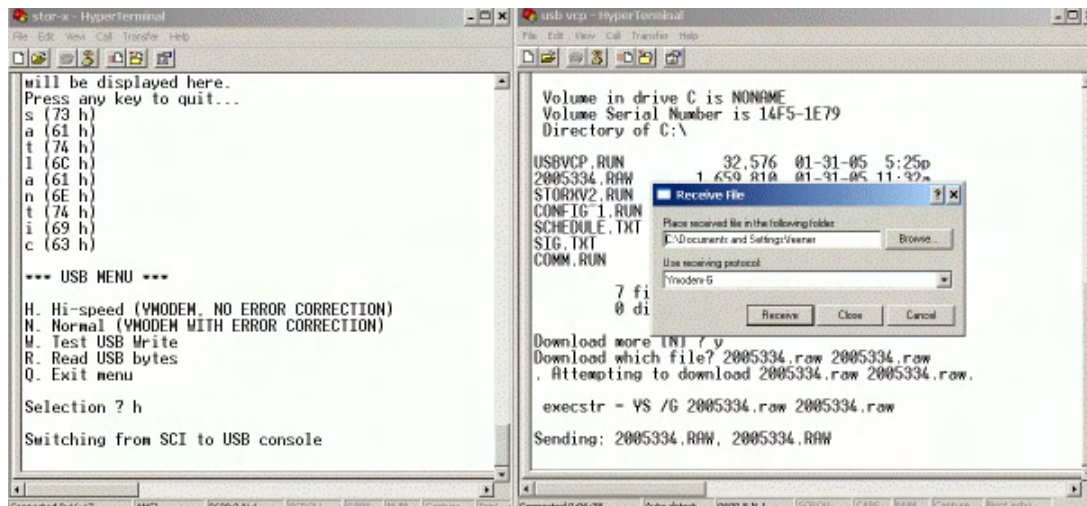

Figure 28 - Setting up HyperTerminal to receive multiple files
- Instruct HyperTerminal to receive the files as before by selecting Receive File from the Transfer menu, as shown in Figure 28. HyperTerminal will download the files listed automatically.